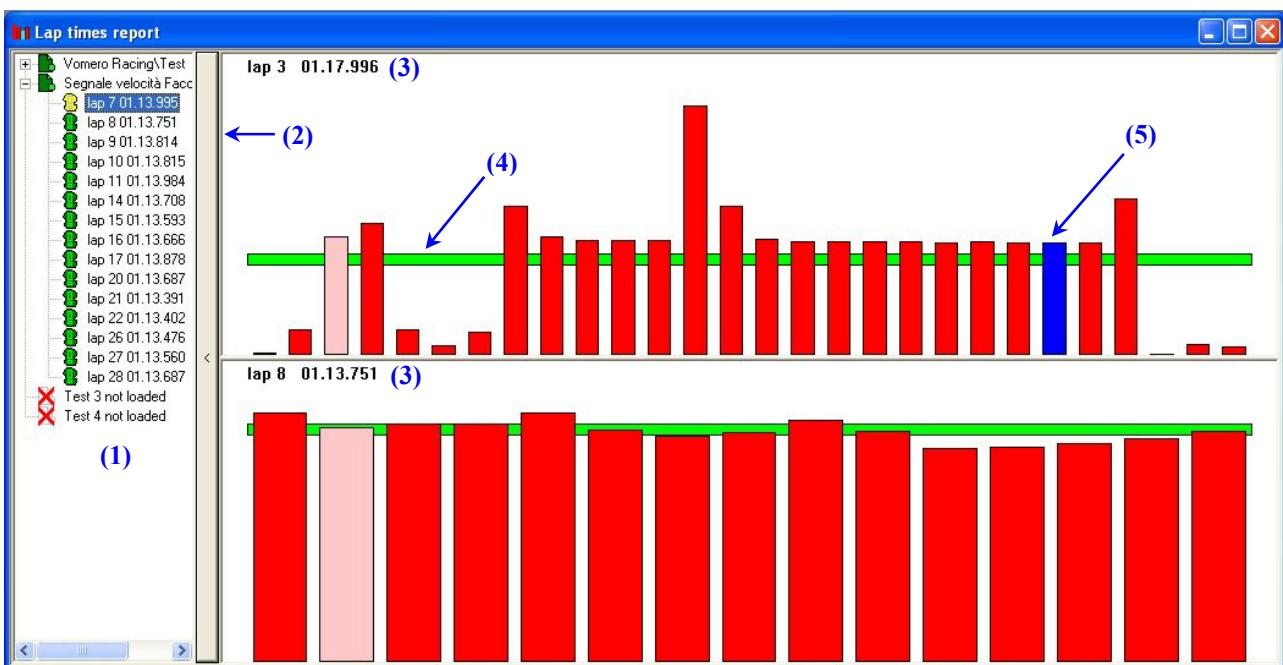

Fig. 6.2 – Lap times analysis: 2 tiled graphs
An example of a Lap Times analysis graph is shown in Figure 6.2 and described below.
The Lap Times report window is divided into two separate parts: on the left (1) it is shown the loaded tests and the tests' laps, while, on the right, it is shown a histogram graph reporting the lap times. When more than one test has been loaded, the histograms are displayed on a tiled graph, as reported in Figure 6.2 (2 tests loaded).